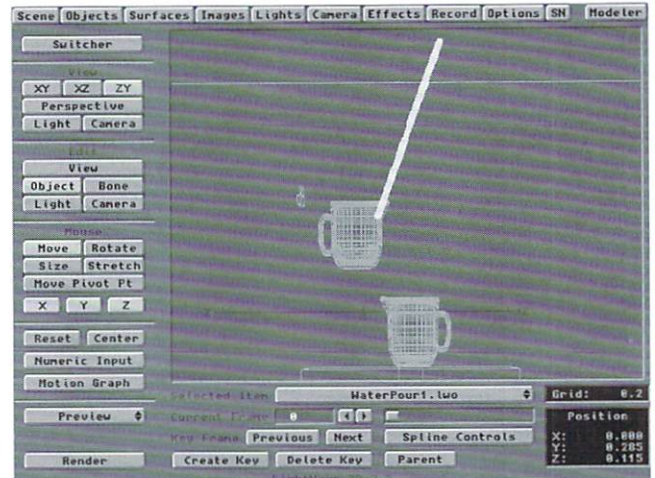

Figure 6: All objects are positioned and ready for animating.
the "WtrPour.lwo" object in this position at frame 0. Compare the Side (ZY) view of your Layout screen with the one in Figure 6 to make sure all of your objects' initial positions are correct.